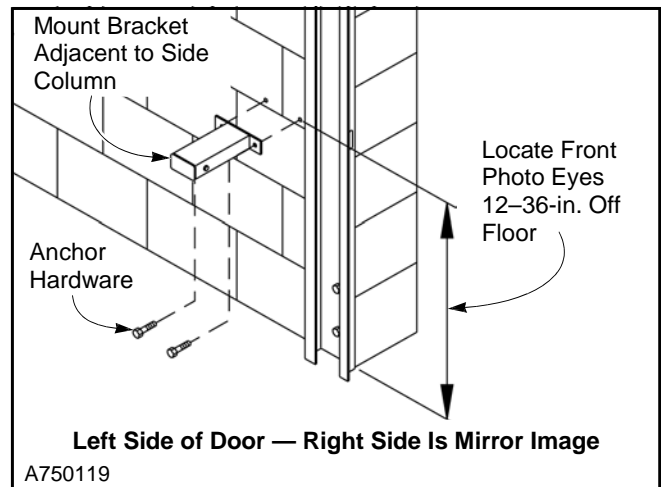

Figure 49
**NOTE:** The front set of eyes is to be located on the wall, adjacent to the front side of the door. Each eye must be located 12–36 in. above the floor and as close to the door as possible. They must also be mounted directly across from each other. (See Figure 49.)